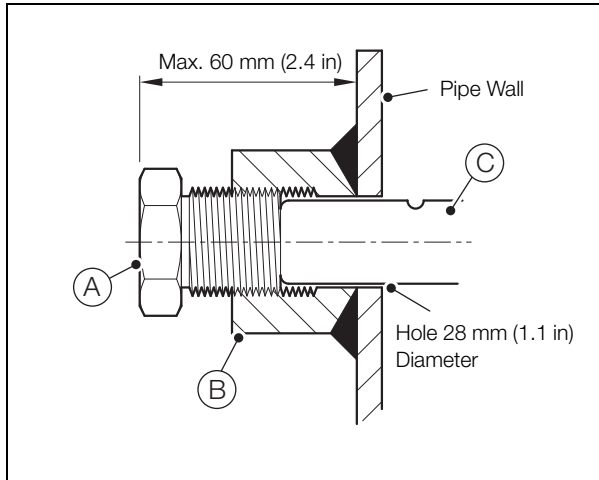

Fig. 2.8 Threaded Model FPD350.T4.E1 Support Plug
11. Referring to Fig. 2.8, screw support plug (A) into threaded fitting (B) and tighten, ensuring that:
- a. support plug (A) contacts the Torbar (C)
- b. the distance between the head of support plug (A) and the pipe wall does not exceed 60 mm (2.4 in).